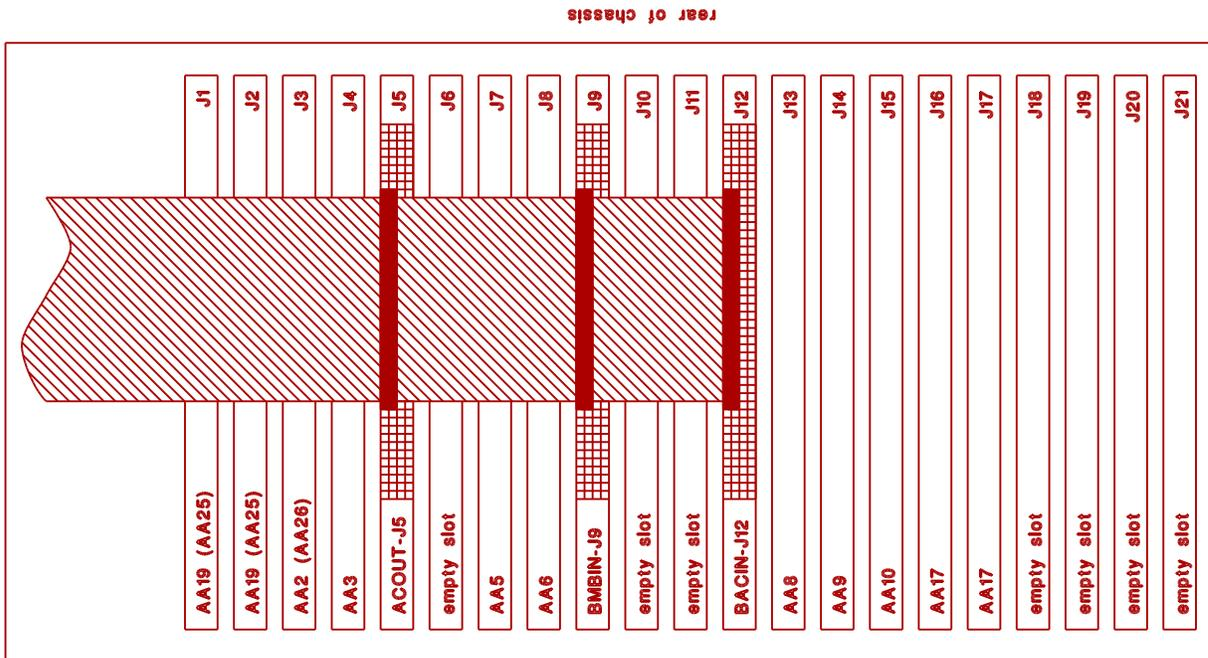

Figure A.3 : Mann 1600A/2600 Electronics Chassis (interior, top view)
- [5] Remove the four screws in the front corners of panel C and carefully pull out the drawer, taking care not to jam any internal cabling. This chassis should contain the interface electronics as shown in Figure A.3